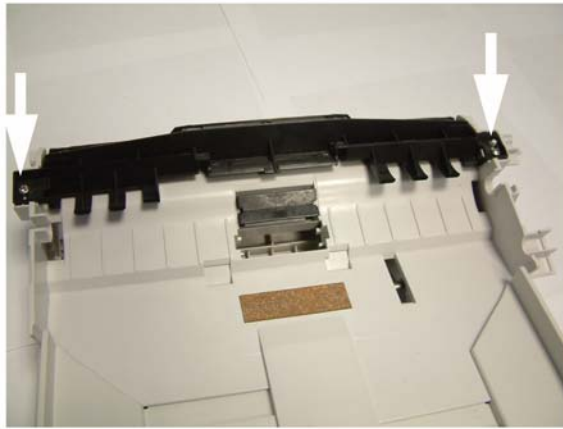

Figure 1
2. Unscrew the two mounting screws of the paper guide assembly, Figure 1.